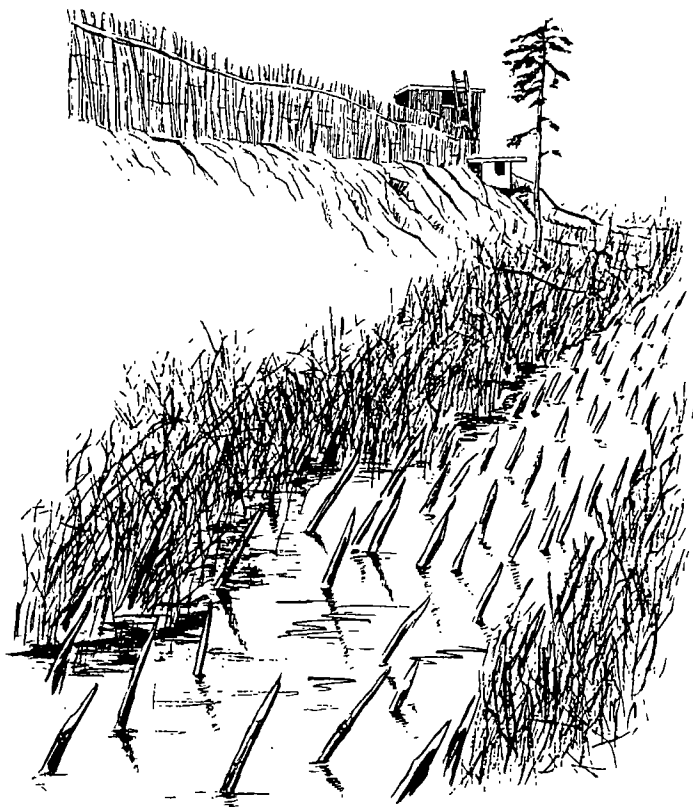

Figure 166. Belt of imbedded sharpened stakes.
f. Belts of sharpened stakes or bamboo barbs imbedded in the earth closely together present a very formidable obstacle to foot troops (fig. 166). This type of obstacle should be employed in tall grassy areas.